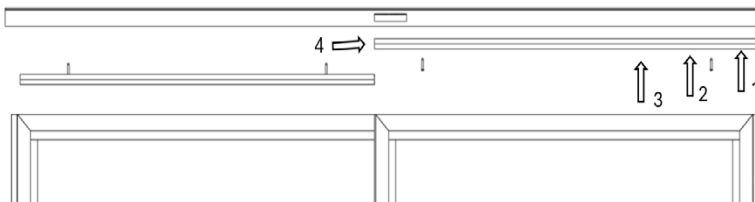

Figure 29a
**47.** Panels must be installed into designated tracks prior to installing Full-Length Header Rails (Figures 29a and 29b)